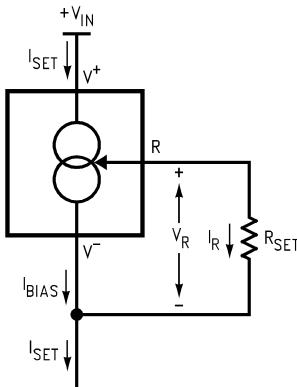

Figure 13. Basic Current Source
- (1) Unless otherwise specified, tests are performed at $T_j = 25^\circ C$ with pulse testing so that junction temperature does not change during test
- (2) Set current is the current flowing into the V^+ pin. For the Basic 2-Terminal Current Source circuit shown in Figure 13, I_{SET} is determined by the following formula: $I_{SET} = 67.7 \text{ mV}/R_{SET}$ (@ 25°C). Set current error is expressed as a percent deviation from this amount. I_{SET} increases at 0.336%/°C @ $T_j = 25^\circ C$ (227 $\mu V/^\circ C$).
- (3) I_{SET} is directly proportional to absolute temperature (°K). I_{SET} at any temperature can be calculated from: $I_{SET} = I_0 (T/T_0)$ where I_0 is I_{SET} measured at T_0 (°K).
The total current through the LM134 (I_{SET}) is the sum of the current going through the SET resistor (I_R) and the LM134's bias current (I_{BIAS}), as shown in Figure 13.